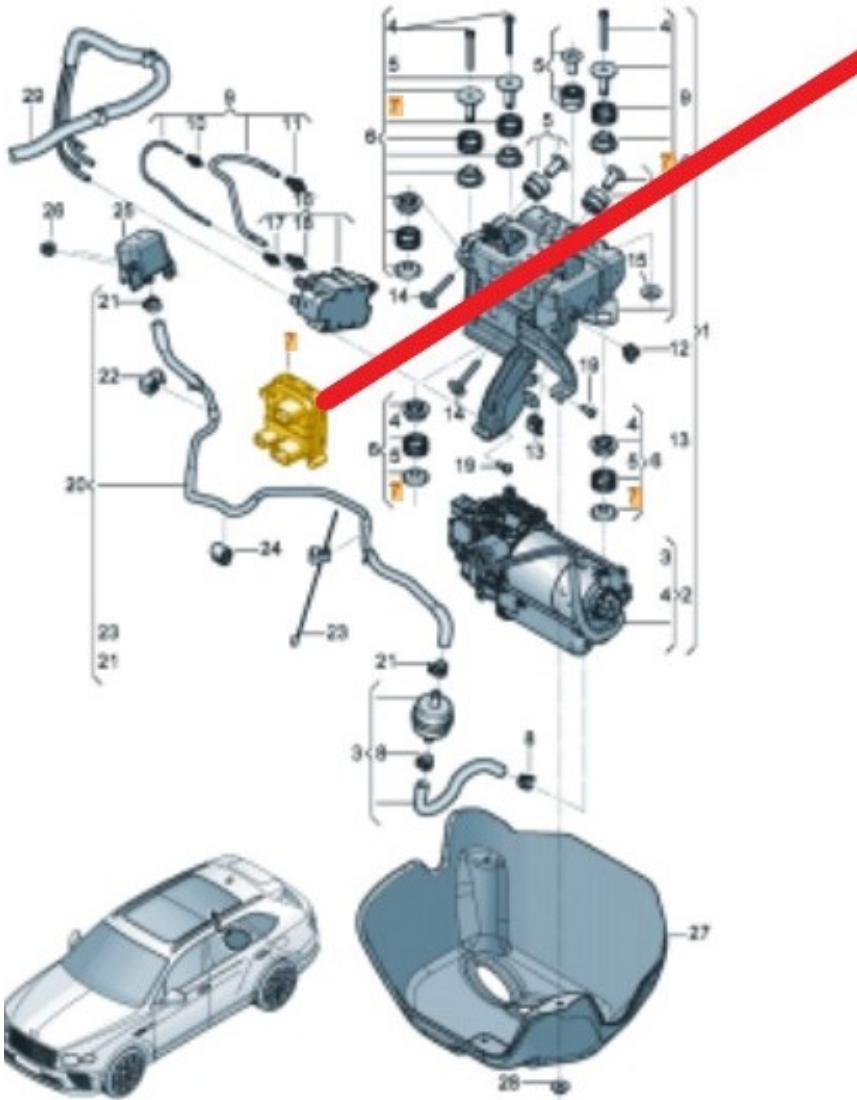

Figure 3
- Replace the compressor control unit - Figure 3